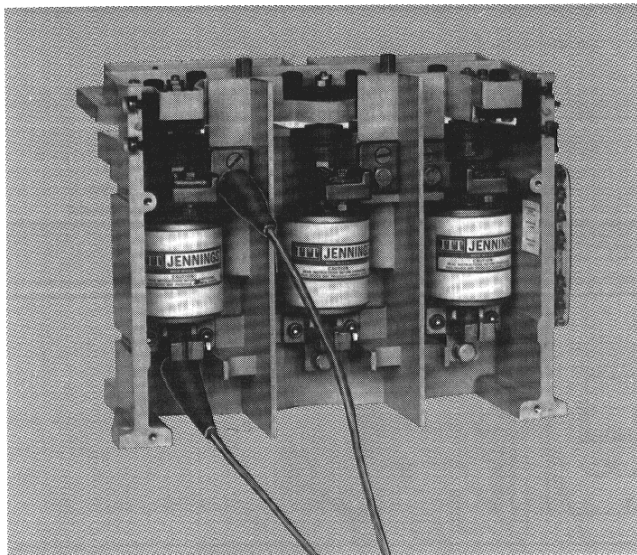

Figure 59. Method of connecting test leads to interrupter for vacuum integrity test.
2. With the contactor in the open position connect the test leads to the contactor power terminals as shown in Figure 59. Apply the recommended test voltage (per table above) and hold for a minimum of five (5) seconds.